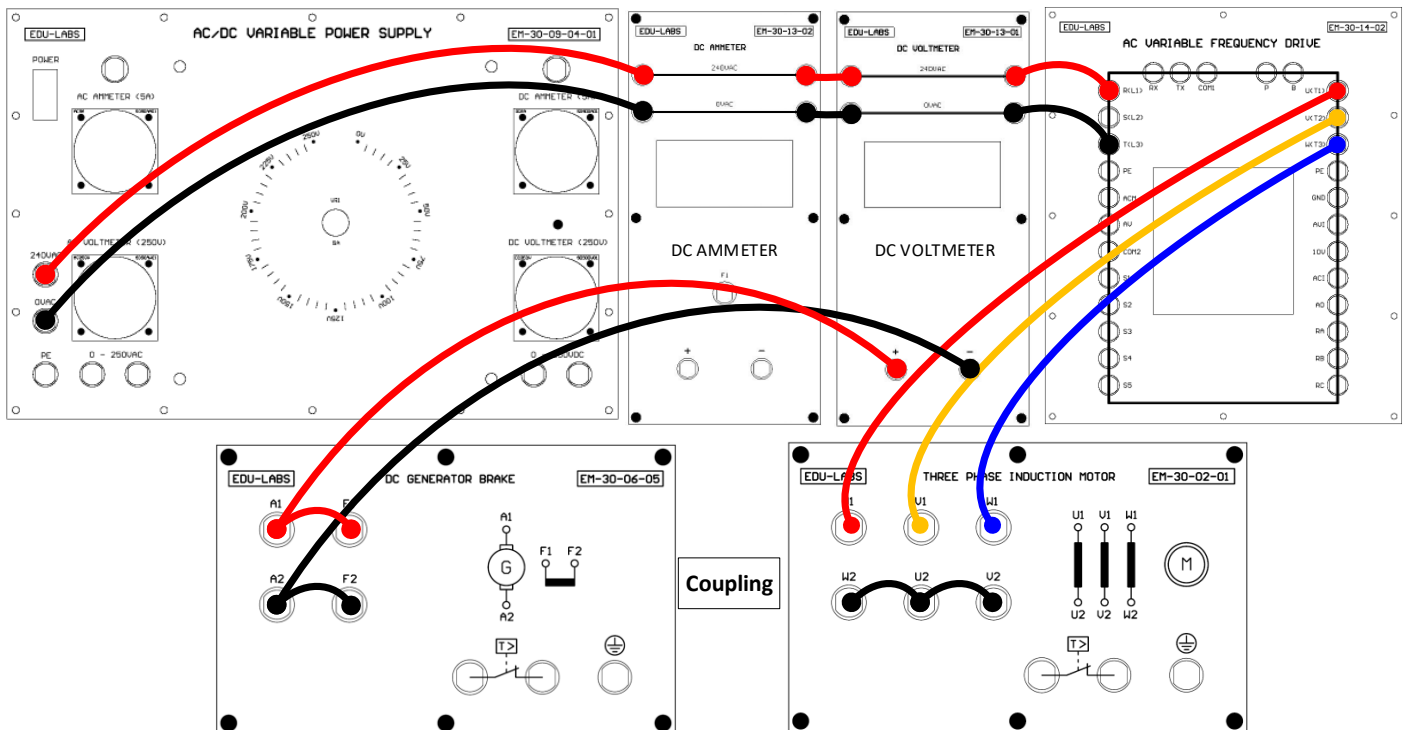

Fig 1.
1. Construct the circuit as Fig 1. Switch ON the AC/DC Variable Power Supply, adjust the Frequency Knob at AC Variable Frequency Drive, measured and record the values in the Table 1.